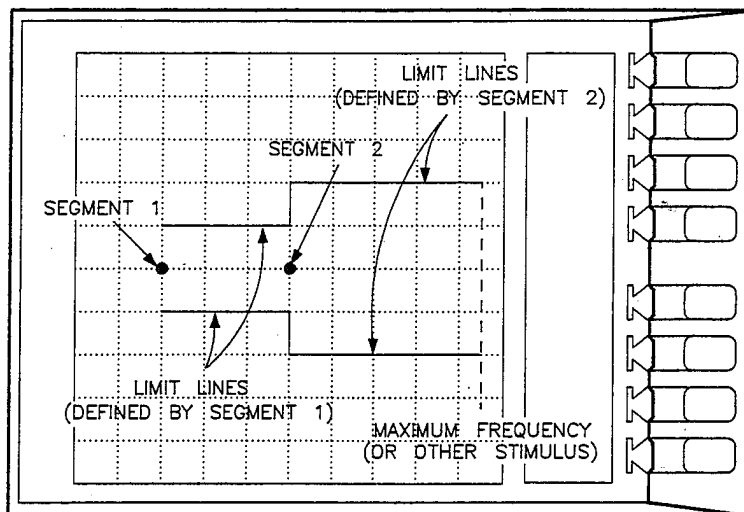

Figure 10-7. The Concept of Segments as a Single Stimulus Point, with Limit Lines Connecting Them
**Understanding Segments.** Before limit lines can be explained the concept of “segments” must be made clear. A segment is a single point, it is *not* a line connecting two points. Refer to Figure 10-7.
As you can see in the figure above, segments are distinct points that define where measurement limits (limit lines) begin and end. Limit lines span the distance between segment points and represent the upper and lower test limits. Figure 10-7 also shows another important aspect of limit lines: If no end segment is specified, a set of limit lines will continue until the maximum frequency (or other stimulus) is reached. This is the case with the limit lines started by segment 2.